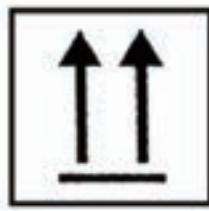

FIG 9-1
- 2.2 The shipment should be vertical upward as shown in the figure 9-1.